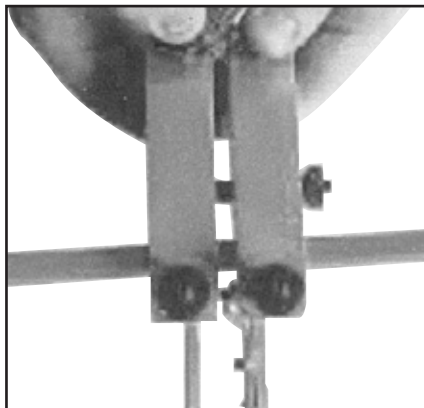

Figure 16
6. On the opposite clamp, loosen nuts and place belt in the same clamping position. Warning: Make sure belt does not contain any twist. Slide belt in clamp until the two belt ends butt together. Make sure that ends are properly aligned on all sides, (See Fig. 16). Tighten clamp nuts.